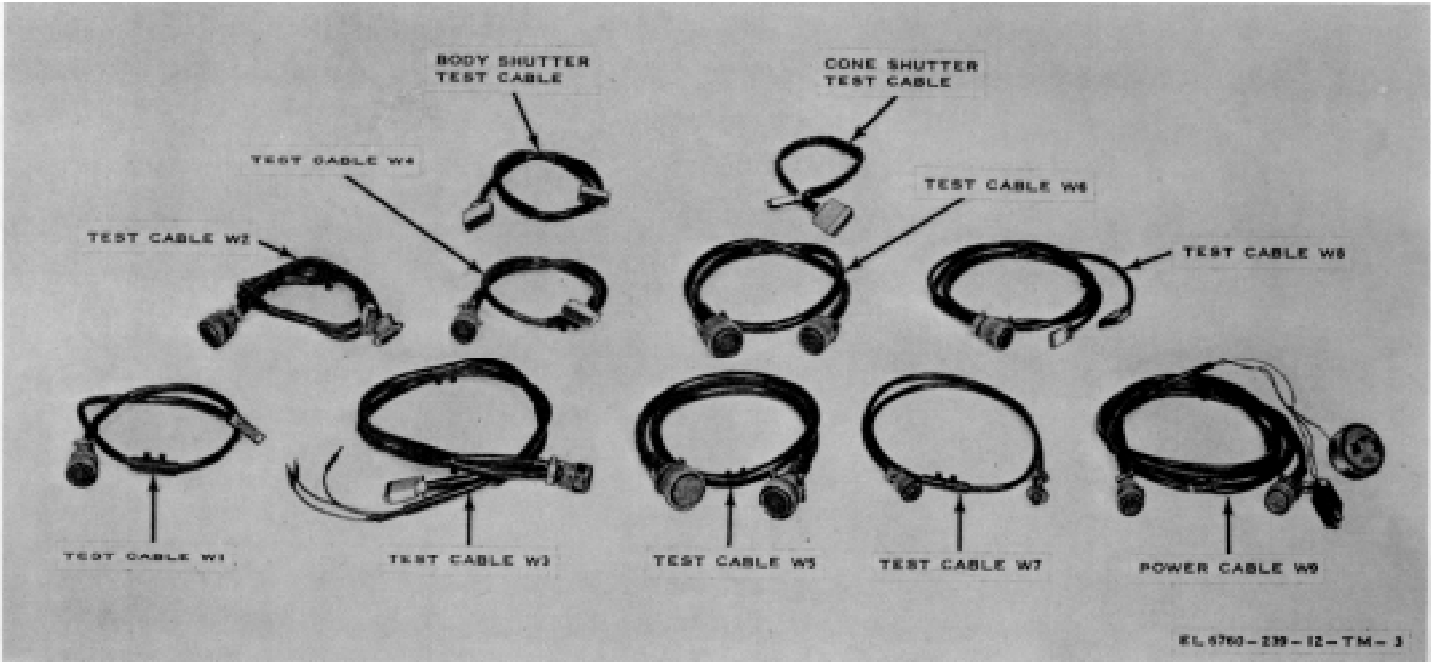

Figure 1-3. Test Set, Analyzer, Camera LS-80A, cable assemblies.
f. Test Cable W1 (fig. 1-3). Test cable W1 is a 29-conductor cable used for interconnecting the test panel and the right chassis and components assembly of the camera body assembly under test. One end of the cable is terminated by a 32-prong male connector for connection to the test panel. The other end of the cable is terminated by a 34-pin female connector for connection to the right chassis and components assembly.
h. Test Cable W3 (fig. 1-3). Test cable W3 is a 20-conductor cable with three additional test leads at one end. It is used for interconnecting the test panel and lens cone assembly under test. One end of the cable is terminated by a 26-prong male connector for connection to the test panel. The other end of the cable is terminated by a 23-pin female connector and three test leads terminated with red plugs for connection to the lens cone assembly under test.
i. Test Cable W4 (fig. 1-3). Test cable W4 is a 27-conductor cable used for interconnecting the test panel and the camera body assembly under test. One end of the cable is terminated by a 32-prong male connector for connection to the test panel. The other end of the cable
j. Test Cable W5 (fig. 1-3). Test cable W5 is a 34-conductor cable used for interconnecting the test panel and Control, Power Supply LA-406A under test. One end of the cable is terminated by a 55-prong male connector for connection to the test panel. The other end of the cable is terminated by a 57-pin female connector for connection to Control, Power Supply LA-406A under test.
k. Test Cable W6 (fig. 1-3). Test cable W6 is a 21-conductor cable used for interconnecting the test panel and Control, Power Supply LA-406A under test. One end of the cable is terminated by a 39-pin female connector for connection to the test panel. The other end of the cable is terminated by a 57-prong male connector for connection to Control, Power Supply LA-406A under test.
l. Test Cable W7 (fig. 1-3). Test cable W7 is a two-conductor cable used for interconnecting the test panel and Light Sensor, Aircraft Camera LA-402A under test. One end of the cable is terminated by a six-prong male connector for connection to the test panel. The other end of the cable is terminated by a four-pin female connector for connection to Light Sensor, Aircraft Camera LA-402A under test.
m. Test Cable W8 (fig. 1-3). Test cable W8 is a 12-conductor cable used for interconnecting the test panel and the servo drive and S/C modules of the lens cone assembly under test. One end of the cable is terminated by a 26-prong male connector for connection to the test panel. The other end of the cable is divided into two branches, each terminated by a connector for connection to a module of the lens cone assembly under test. One branch is terminated by a seven-pin female connector;
n. Power Cable W9 (fig. 1-3). Power cable W9 is a six-conductor cable used for connecting the test panel to the direct current (dc) and alternating current (ac) sources of power. One end of the cable is terminated by a 12-pin female connector for connection to the test panel. The other end is divided into two branches; one branch terminated by four color coded and tinned leads for connection to the sources of input power, the other branch terminated by a seven-pin female connector.
o. Body Shutter Test Cable (fig. 1-3). The body shutter test cable is a 27-conductor cable used for interconnecting Body Drive, Aircraft Camera LA-373A (camera body) and Shutter, Photographic LA-375A (shutter assembly) of the
p. Cone Shutter Test Cable (fig. 1-3). The cone shutter test cable is a 19-conductor cable used for interconnecting the shutter assembly and the camera lens cone. One end of the cable is terminated by a 26-prong male connector for connection to the camera shutter assembly. The other end of the cable is terminated by a 26-pin female connector for connection to the camera lens cone.